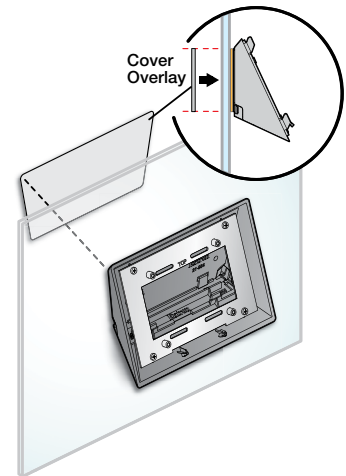

Figure 5. Attaching the Cover Overlay
- (1) cover overlay can be attached to the opposite face of the glass to conceal the adhesive patch (see figure 5, on the next page).
- Position the cover overlay behind the AMK enclosure and secure it to the glass (see figure 5).